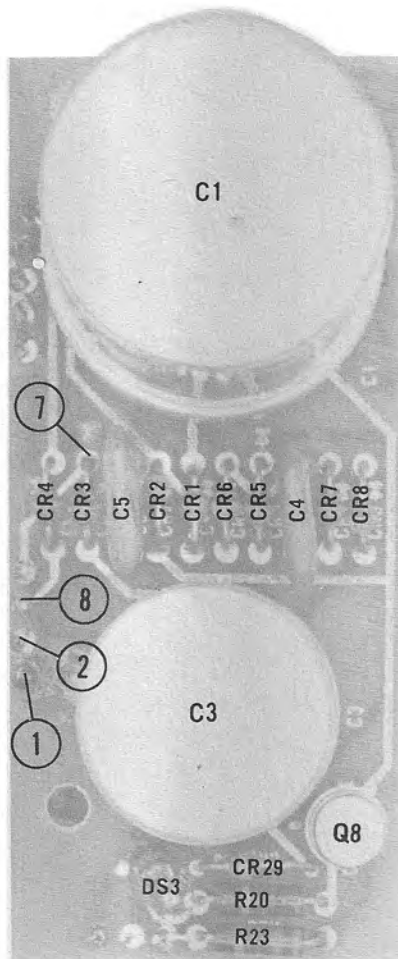

Figure 7-1. Input Printed Circuit Board
- a. Component Location Diagrams, Figures 7-1 and 7-2, which show the physical location and reference designator of parts mounted on the printed wiring board.